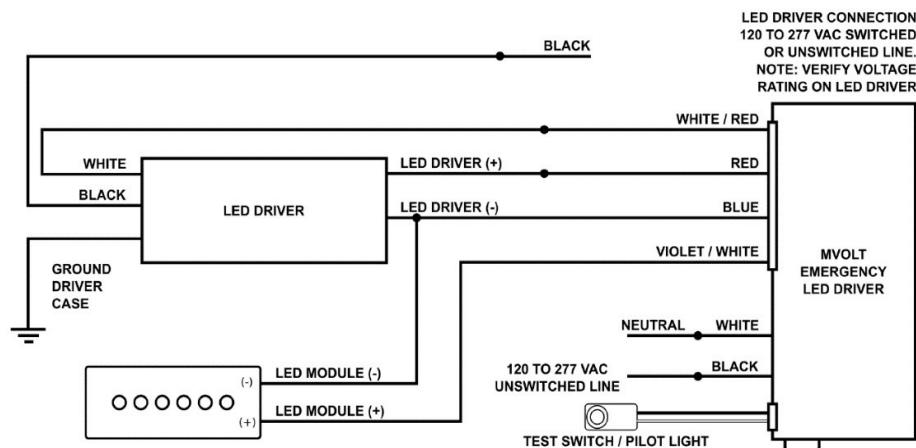

FIG 6: FACTORY BATTERY WIRING DIAGRAM
4. (BATTERY OPTION WITH NX OPTION) If fixture includes **factory installed emergency battery**. See Figure 6.